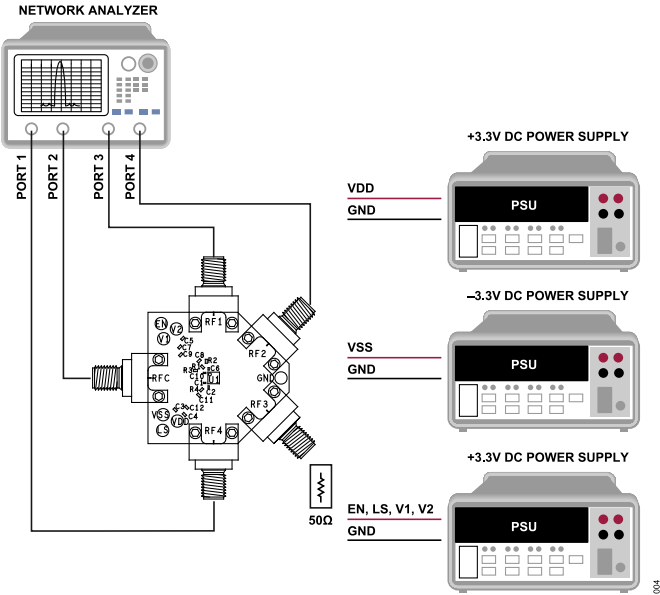

Figure 4. Test Setup Diagram
The ADRF5051-EVALZ is shipped fully assembled and tested. Figure 4 provides a basic test setup diagram to evaluate the S-parameters using a network analyzer. Take the following steps to complete the test setup and to verify the operation of the ADRF5051-EVALZ:
5. Connect a calibrated network analyzer to the RFC, RF1, RF2, RF3, and RF4 2.92mm connectors. If the network analyzer port count is not enough, terminate unused RF ports with 50Ω (see Figure 4). Set the power to -5dBm and sweep the frequency from 9kHz to 20GHz.